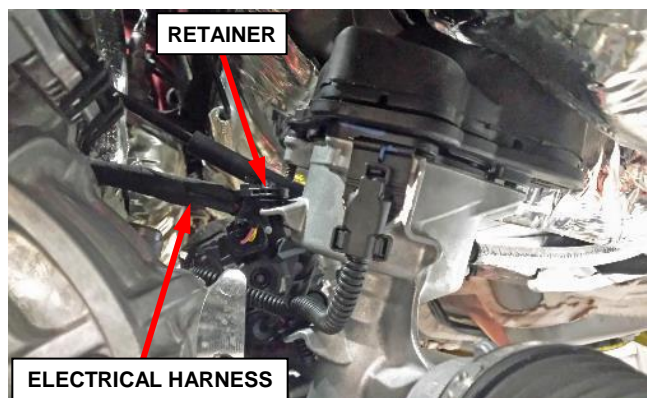

Figure 87 – Electrical Harness Retainer
65. **FWD only:** Release the vehicle wire harness retainer from the steering gear housing (Figure 87).
4. **FWD only:** Attach the wire harness retainer to the steering gear (Figure 87).